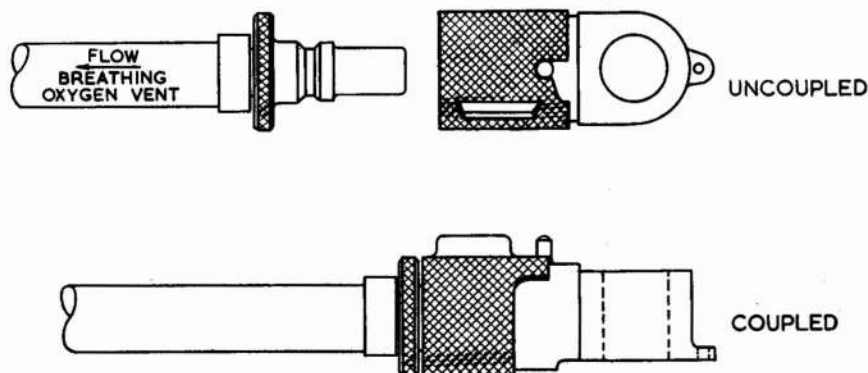

Fig. 5. Quick release connectors
- (1) Before aligning the flexible pipe end nipple with the connector, the outer sleeve should be in the UNCOUPLED position as shown in fig. 5.
- (2) When the nipple is pushed into the connection it will engage a series of rollers and automatically lock.
- (3) To release the flexible pipe the outer sleeve of the connector should be turned fully clockwise and move inwards away from flexible pipe (as viewed from the aperture end) and withdraw the flexible pipe.